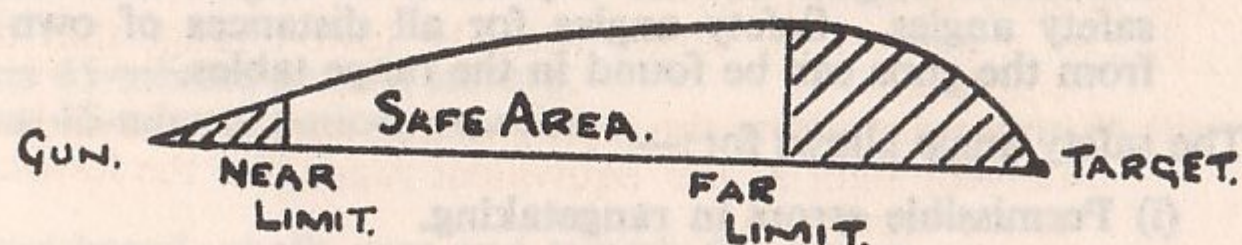

FIG 32
- (c) *Near and far limits of safety.*—When troops are advancing through the gun position to the target, under overhead fire, there must be a point after they have passed the gun position at which they are safe and a point nearer the target at which they again become unsafe. These points are called the near and far limits of safety (see Fig 32 below).